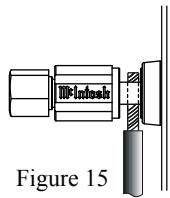

Figure 15
- Referring to the illustration connect the Loudspeaker hookup cables to the XR100 Negative (-) Input Terminal and Positive (+) Input Terminal. Insert the spade lug connector or prepared section of the cable end into the Input Terminal side access hole, and tighten the Input Terminal cap until the cable is firmly clamped into the terminals so the lugs or wire cannot slip out. Refer to figures 15 and 16.